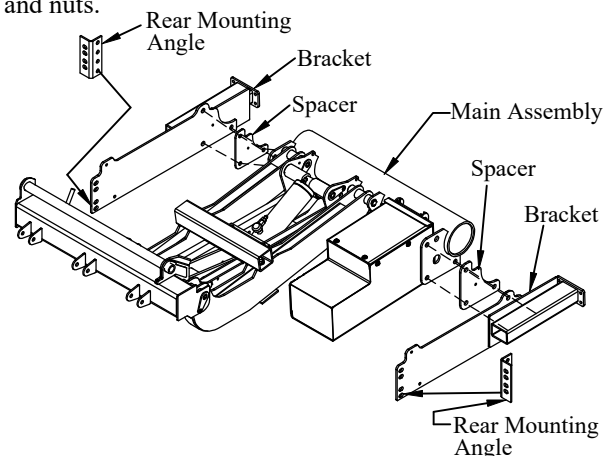

Figure 7: Bracket plate locations.
8. **Install** the brackets on the main assembly using six (6) 5/8" x 1-1/2" bolts, lock washers, and nuts. The bolt head and lock washer should be on the outside (Figure 7).
9. **Install** rear mounting angles with four (4) 1/2" x 1-1/4" bolts, lock washers, and nuts. Position the rear mounting angles using the bottom set of holes and slots.